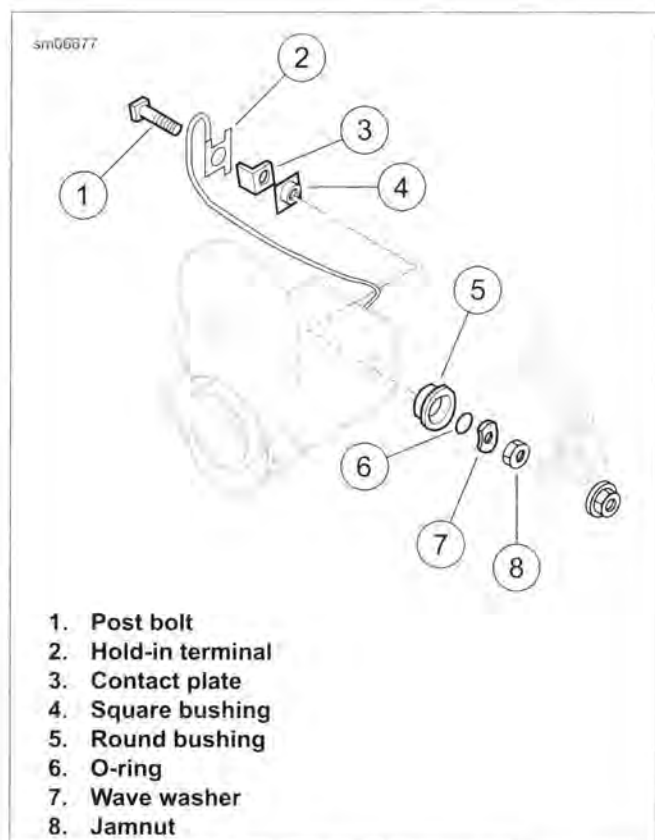

Figure 7-23. Short Post Contact (starter)
- b. See Figure 7-23. Remove jamnut (8), wave washer (7), O-ring (6) and round bushing (5).
- c. Remove the post bolt (1).
- d. Remove the hold-in terminal (2) from the post bolt.
- e. Remove the contact plate (3) and the square bushing (4).